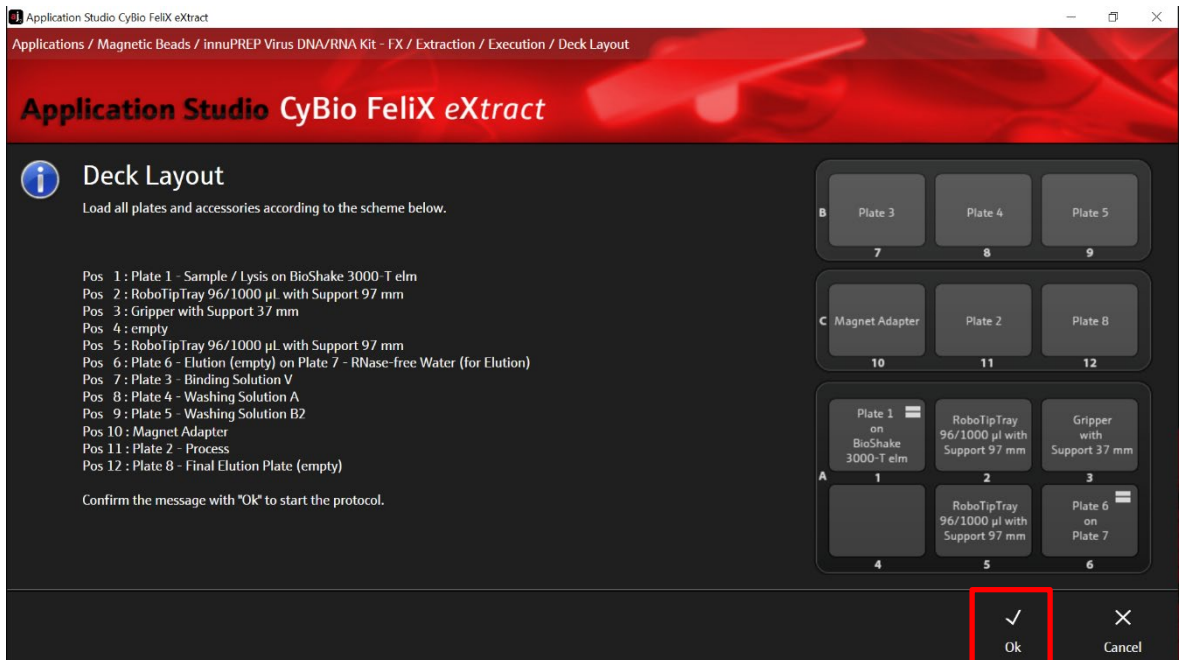

Figure 33: Deck layout for the final hardware check for the extraction.
9. After selecting "Execute" the deck layout is shown. Check the correct positions of plates and accessories and confirm the message with "Ok" to start the protocol (→ see Figure 33).